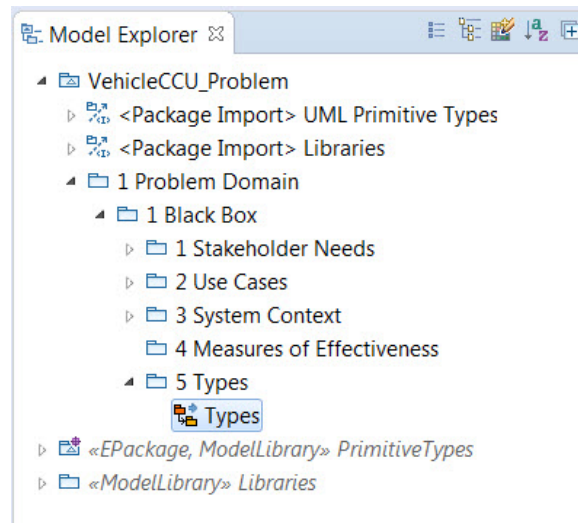

Figure 72: Types Package Diagram.
2. Now we will work in the *5 Types* package to create our data types. Let's create a new package diagram to hold our data types. Right-click the *5 Types* package and select **New Diagram** and then select **SysML 1.4 Package Diagram** and name it *Types* (figure 72).